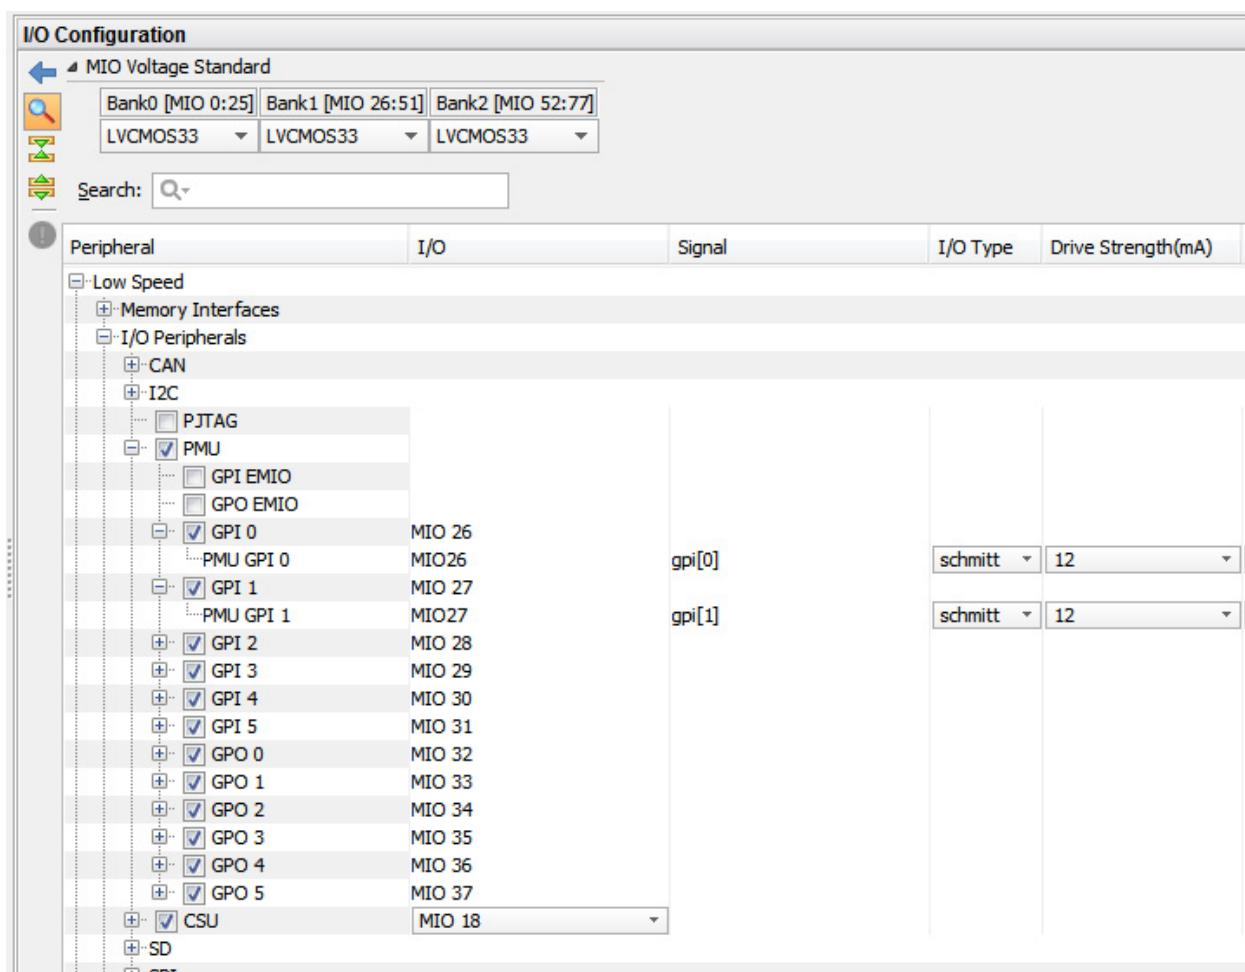

Figure 3-11: Configuring PMU I/O Pins
- **CSU** - The boot process is managed and carried out by the Platform Management Unit and Configuration Security Unit. The CSU can be enabled by selecting the CSU check box as shown above in Figure 3-11.
- **SD** - The SD 3.0/SDIO 3.0 host controller with an AXI processor interface conforms to the secure digital (SD) host controller standard specification version 3.00. The host controller handles the SDIO/SD protocol at the transmission level, packing data, adding cyclic redundancy check (CRC), start/end bits, and checking for transaction format correctness. The host controller provides for the programmed I/O method and the DMA data transfer method.